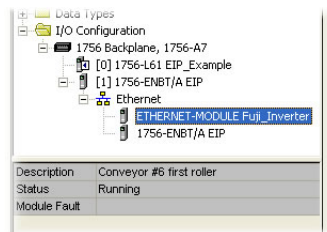

Figure 90: Online Module Status
- 7) Switch to online mode and download the project to the PLC. Verify that the newly-added inverter is available and operating correctly by observing any indications shown on the inverter’s icon. When the inverter’s icon is selected, its status and any available error messages will be displayed in the area below the project tree. Refer to Figure 90. Also confirm that the interface card’s “Network Status” LED should be solid green, indicating an “online/connected” state.